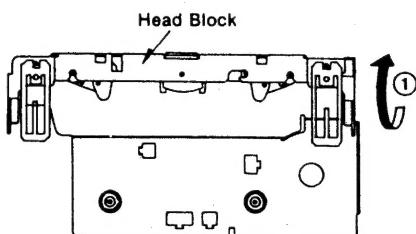

Fig. 4
3. Remove the head block in the direction of the arrow ① and ②. (See Fig. 4 and 5.)